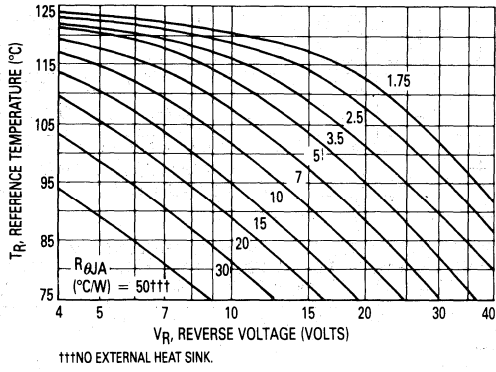

Figure 3. Maximum Reference Temperature — 1N5831
- Step 2: Find T_R from Figure 3. Read $T_R = 113^\circ\text{C}$ @ $V_R = 9.18$ & $R_{\theta JA} = 5^\circ\text{C/W}$